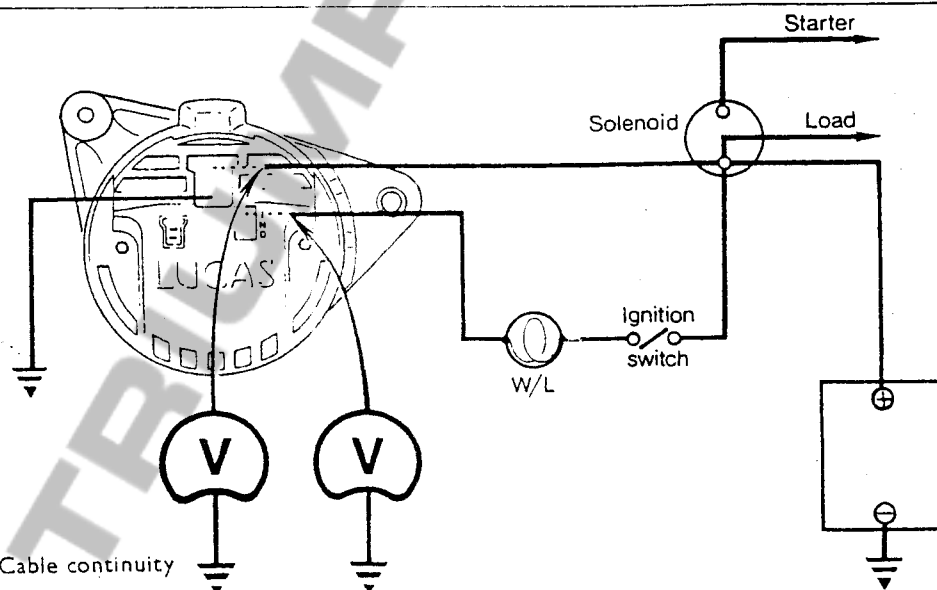

Fig. 78 Cable continuity
- (c) Connect the voltmeter between a good earth and each of the disconnected leads in turn. Fig. 78. The voltmeter should indicate battery voltage.